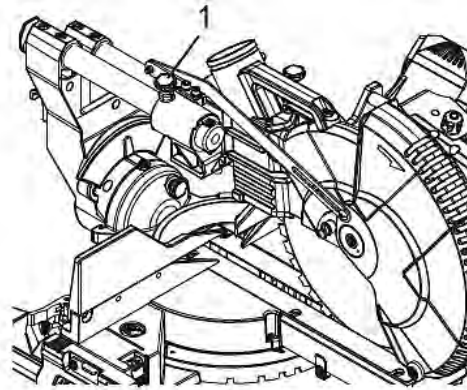

Fig. 36: Sliding carriage system
8.7 Sliding carriage system (Fig. 36)